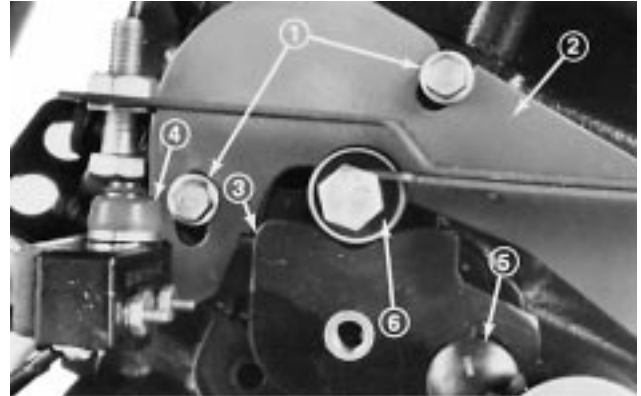

Figure 71
4. With engine OFF, loosen nut on carriage bolt and allow bearing to locate cam (Fig. 71). Carefully tighten nut on carriage bolt.
5. Loosen screws to allow neutral device bracket to move; but not freely (Fig. 71). Adjust neutral device bracket so that $40 \pm$ in—lb of torque on control lever just starts to rotate lever. Tighten screws.